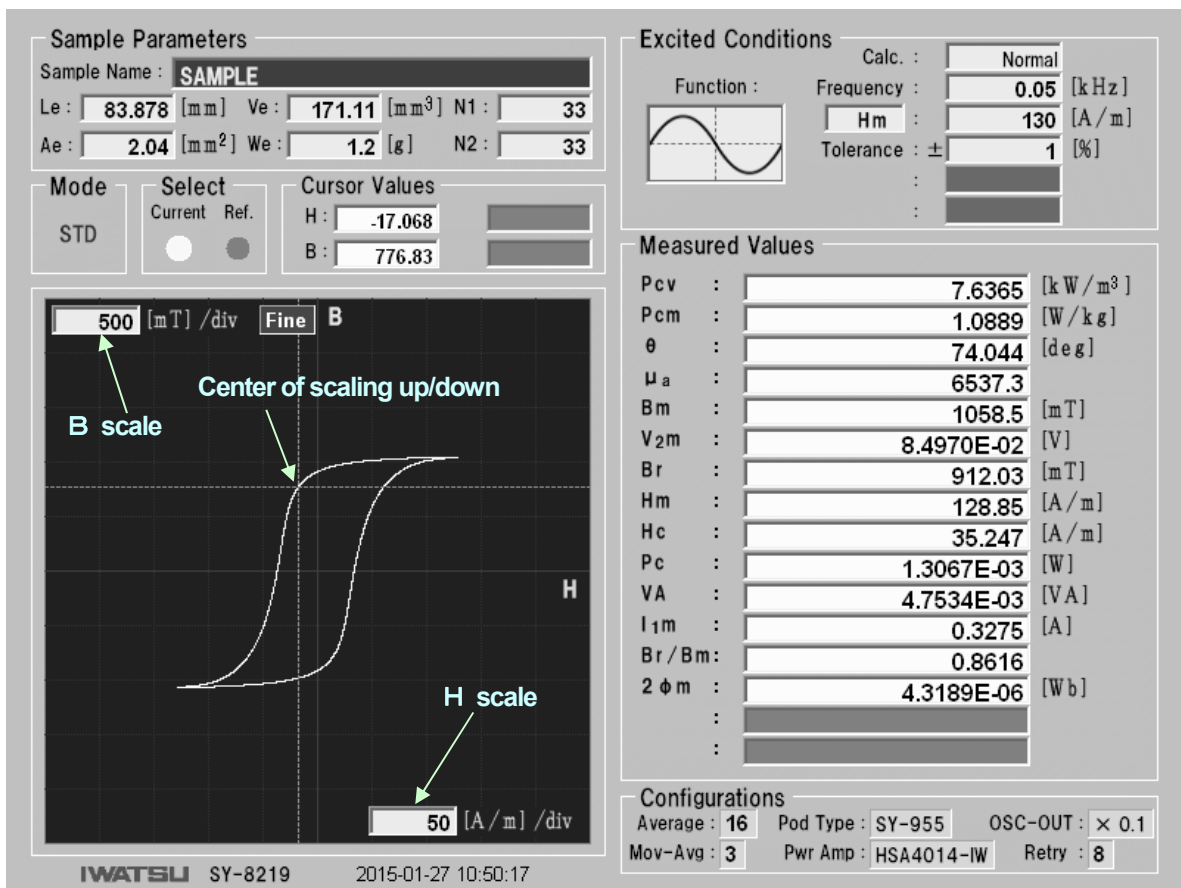

Fig.6-10 Setting of scaling up/ down by Cross cursor
① Move the Cross cursor to the position to be scaled when displaying Cross cursor^{*6-6}. (see Fig.6-10).
② When B scale is to be scaled, move the edition cursor to the B scale List Box; when H scale is to be scaled, to the H scale List Box. And then
③ When Popup List opens, move the edition cursor to the scale to be set and press  to determine the scale.